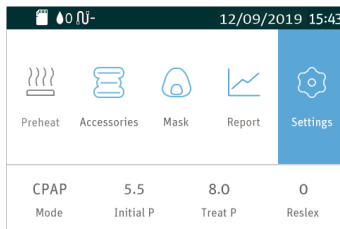
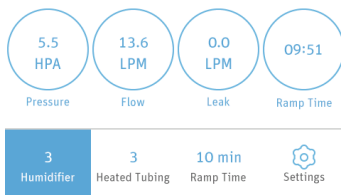
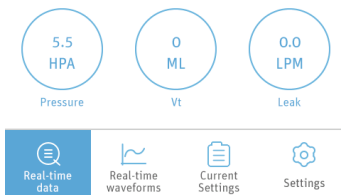

Fig. 16-1
Fig. 16-2
Fig. 16-3
Connect the power cord and power adapter properly, the screen displays the Main Interface shown in Fig. 16-1. Press **the Start / Stop Button**, and the device will start delivering air, the screen displays the Main Interface shown in Fig. 16-2 (Applicable to G3 B20A, G3 B25S, G3 B25A models) or Fig. 16-3 (Applicable to G3 B25VT, G3 B30VT, G3 B30SV, G3 LAB, MBC-790-30ATHmodels).
**Note:** As the humidity levels is off, the Preheat Function Icon will become gray, as shown in Fig. 16-2.
After the display screen displays the Main Interface shown in the Fig. 16-1, turn **the Knob** . When the cursor is on the icon , press **the Knob** , the screen displays the Initial Setup Interface of the Patient Menu, as shown in Fig. 16-5.
The users can press **the Home**  to return to the Main Interface shown in Fig. 16-1.